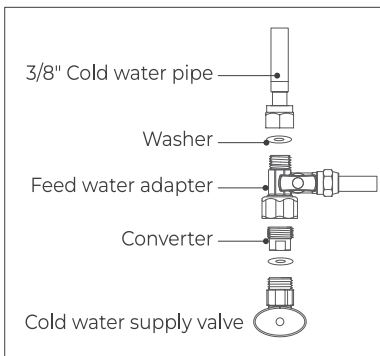

Figure 5
3. If the cold water pipe is 3/8", twist the converter onto the cold water supply valve (with its washer), then twist the feed water adapter onto the converter, and tighten with an adjustable wrench (**Figure 5**).